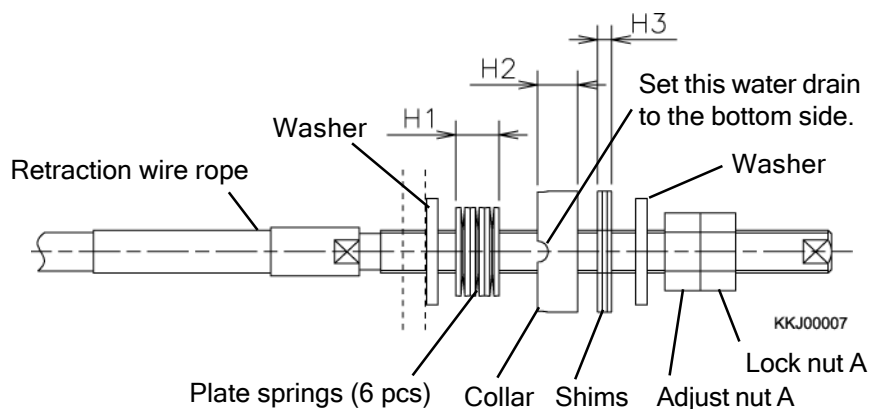

Fig. 2-22 Retraction wire end
- 4) Tighten the Adjust nut A until the washers touch the collar as shown in the fig. 2-22.